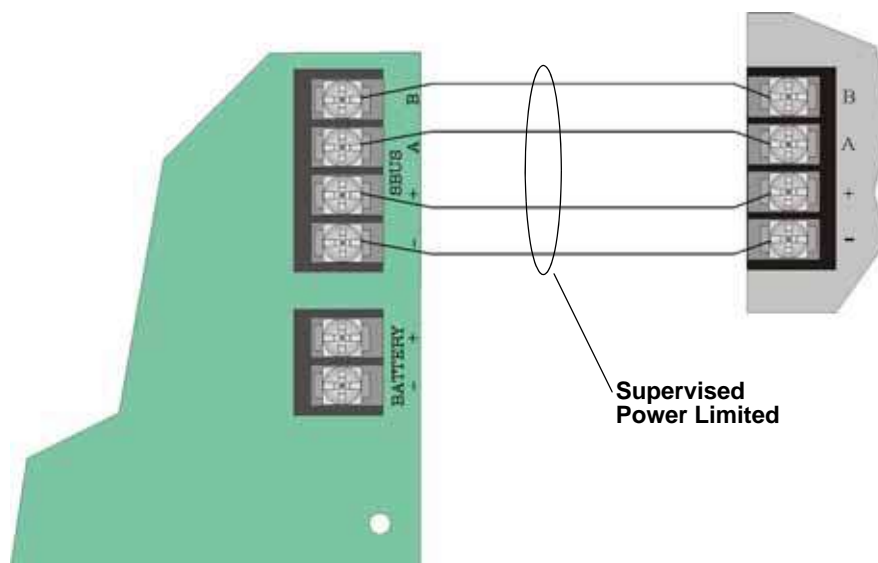

Figure 4-7 SBUS Class B Wiring
Figure 4-7 illustrates Class B configuration.
3. Wire the Annunciator board to the main control panel. See Figure 4-7.